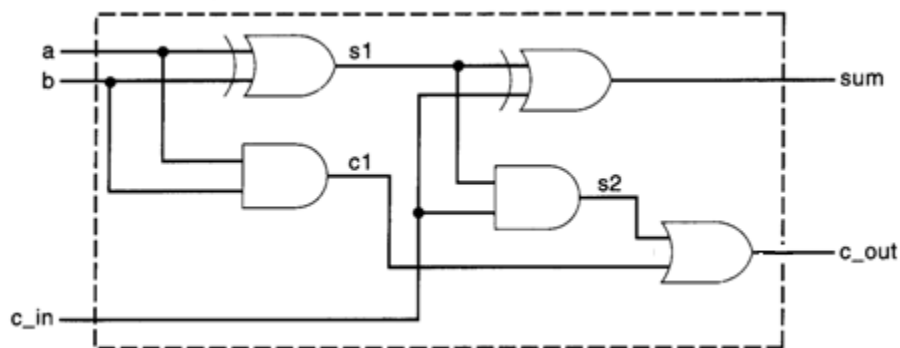

Fig.3.8: 1-bit Full Adder
- The logic diagram for a 1-bit full adder is shown in fig.3.8